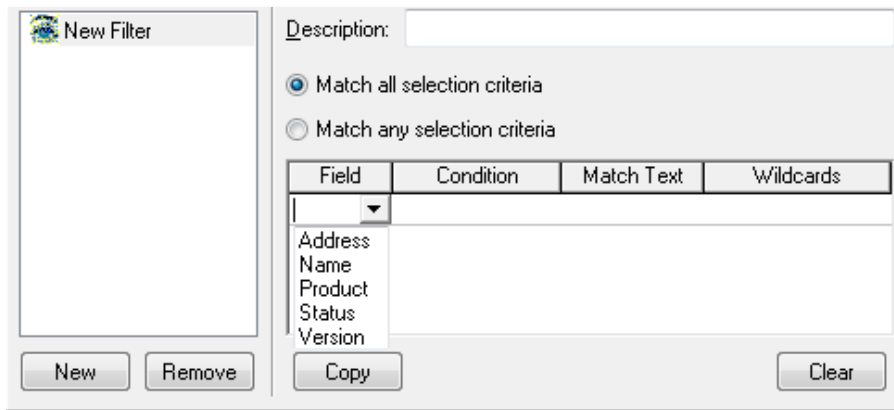

Figure4
3. Now set up the conditions for the filter (click on the field beneath the headings to see the options) and save it by pressing OK. You can see how a filter is defined in Figure 4.